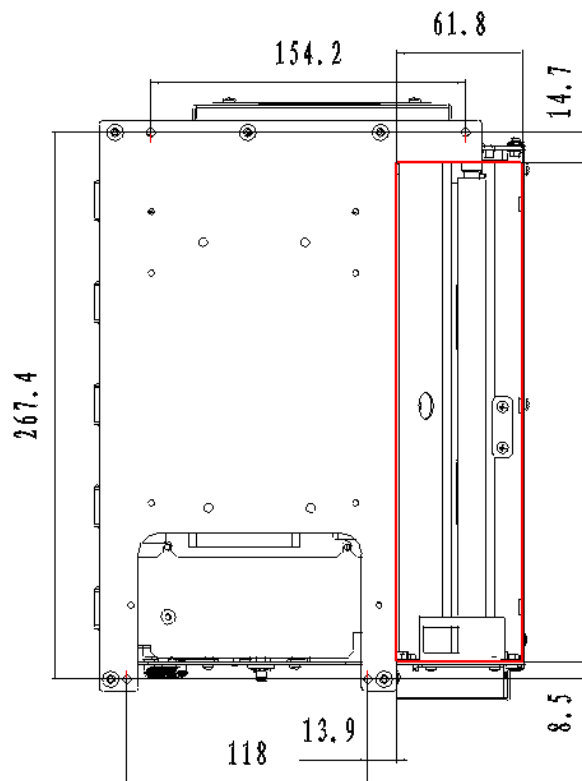

Figure 2.7.7 Paper retraction outlet
- F: Paper backing space. Presenter module waits for the user to take the paper away. If the user does not need the paper, the paper backs to the dustbin of the machine, Paper backing mouth should be left when the machine is fixed (as figure 2.7.7, paper backing mouth is positioned with fixing hole. The hole you design had better be bigger the one in the figure). If your printer doesn't have paper backing function, just neglect this point.